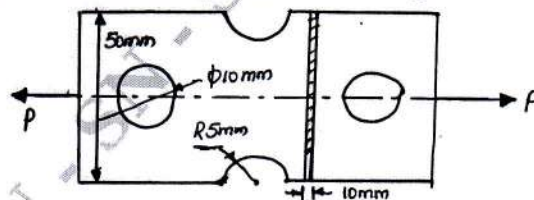

Fig Q3(b)
b. Determine the safe load that can be carried by a bar of rectangular cross-section shown in Fig Q3(b), limiting the maximum stress to 130 MPa taking stress concentration into account.